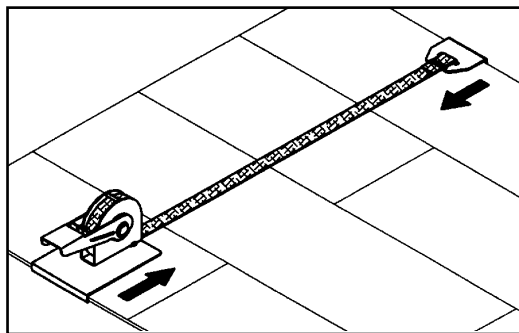

Figure 4 - Clamping with No. 565
2. Hook the base clamp onto the tongue of the last row. (See figure 4.)